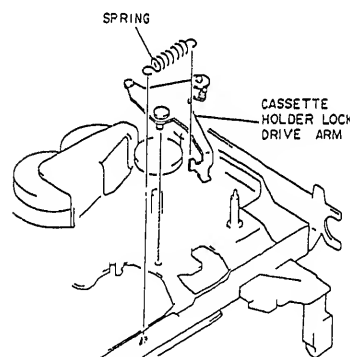

Fig. 2-95
1. Release the spring between the cassette holder lock drive arm and chassis. (See Fig. 2-95)